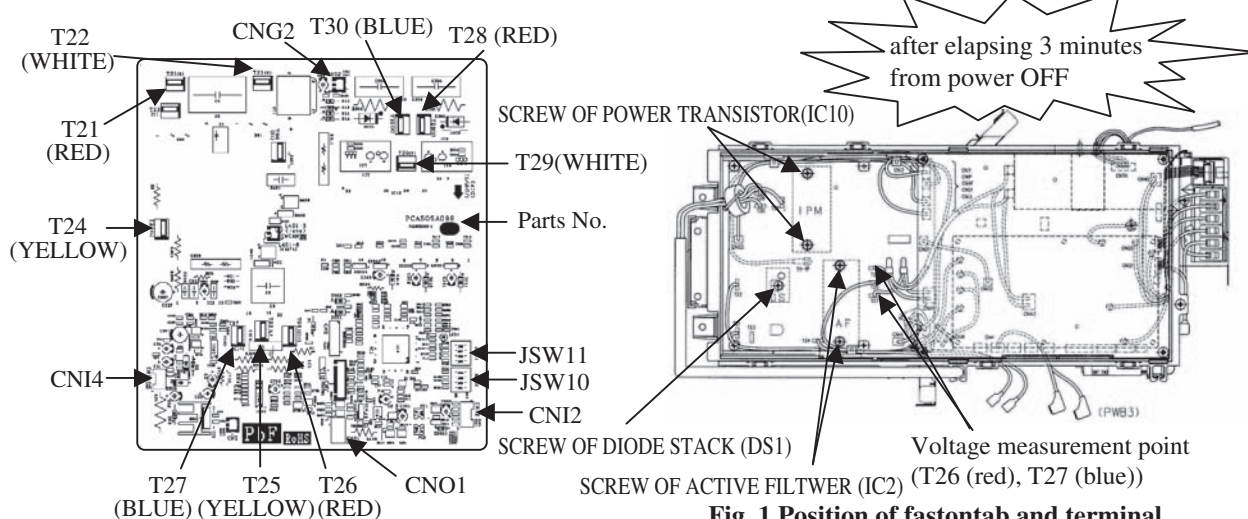

Fig. 1 Position of fastontab and terminal
- Take off the connection of inverter PCB terminal and connector, and remove the screw of power transistor (IC10), active filter (IC2), and diode stack (DS1) then remove the PCB. Wipe off the silicon grease neatly on the controller's radiation heat fins. (Refer to Fig.1 and 2)